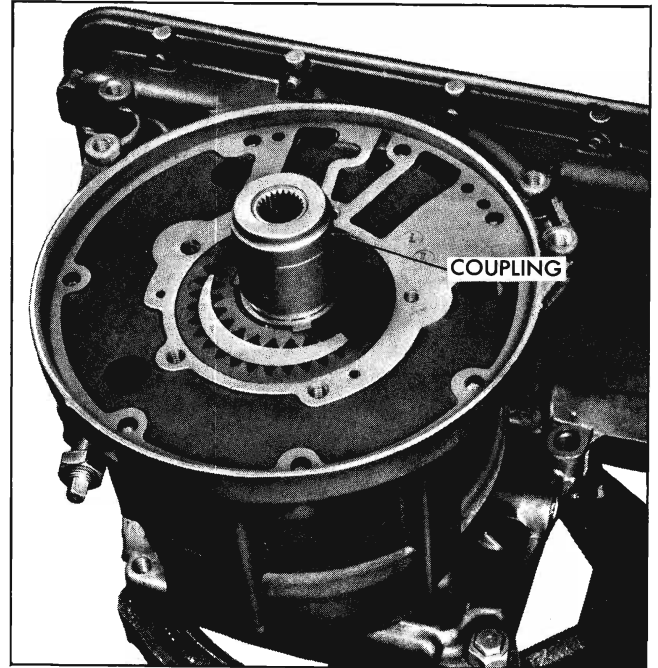

Fig. 7A-33 Coupling Assembly
12. Remove thrust washer and coupling (Fig. 7A-33).